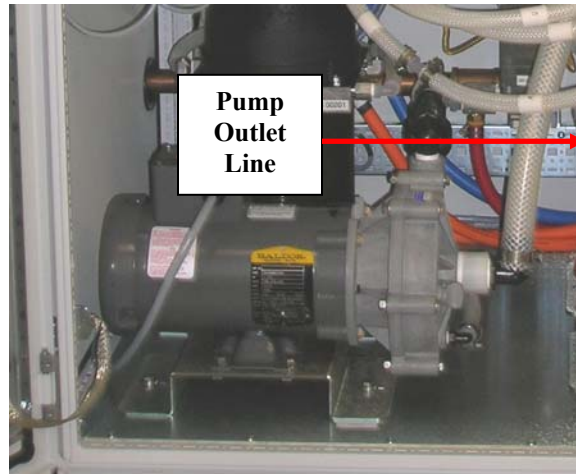

Figure 13 Pump Outlet Line Location
8. Loosen the hose clamp and remove the pump outlet line. (Refer to Figure 13.)